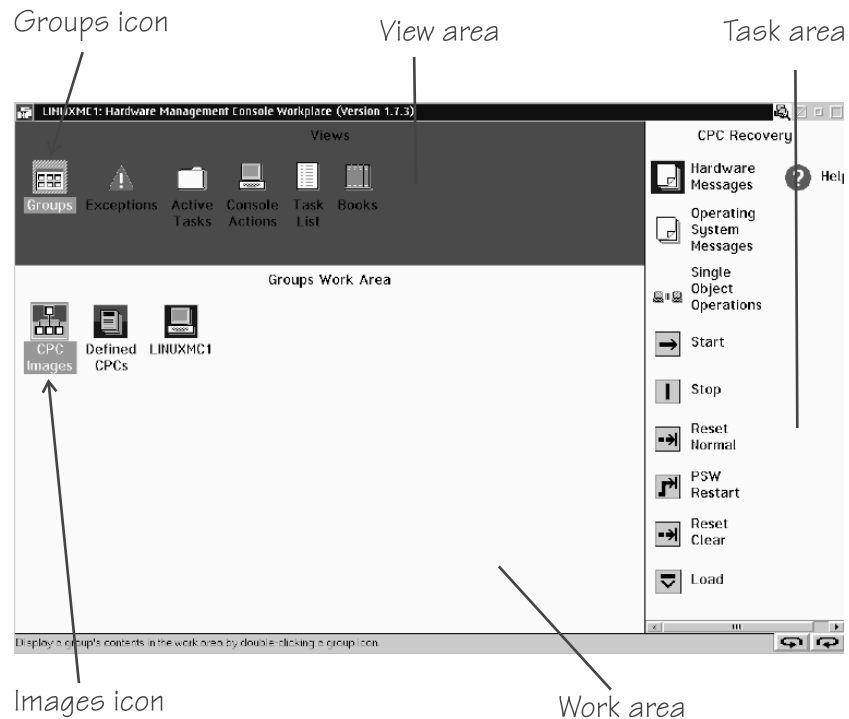

Figure 59. Groups Work Area on the HMC
1. Click the Groups icon in the "Views" area of the HMC to display the "Groups Work Area" (Figure 59 on page 291).